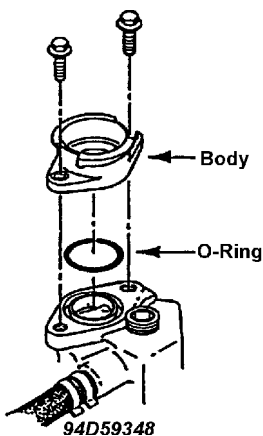

Fig. 65: Replacing Body Cap & "O" Rings
36. Loosen the bolts of the filler cap body. Remove and discard the body and cap. Replace body, cap, and "O" ring with new ones from kit. See Fig. 65.